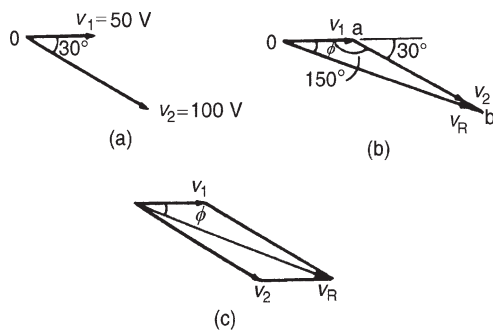

Figure 14.11
Phasors are usually drawn at the instant when time  $t = 0$ . Thus  $v_1$  is drawn horizontally 50 units long and  $v_2$  is drawn 100 units long lagging  $v_1$  by  $\pi/6$  rads, i.e.  $30^\circ$ . This is shown in Fig. 14.11(a) where  $O$  is the point of rotation of the phasors.
- (i) Draw  $v_1$  horizontal 50 units long, i.e.  $0a$  of Fig. 14.11(b)
- (ii) Join  $v_2$  to the end of  $v_1$  at the appropriate angle, i.e.  $ab$  of Fig. 14.11(b)
Alternatively, when two phasors are being added the resultant is always the diagonal of the parallelogram, as shown in Fig. 14.11(c).
A more accurate solution is obtained by calculation, using the cosine and sine rules. Using the cosine rule on triangle  $Oab$  of Fig. 14.11(b) gives: